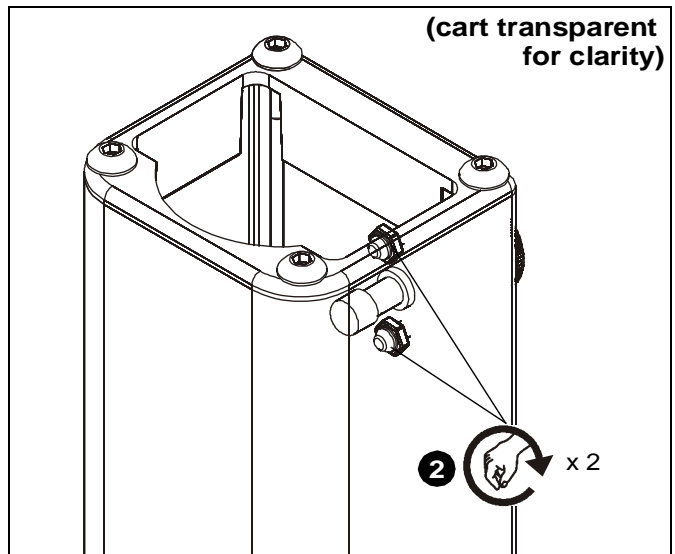

Figure 7
2. Install two removed flat head cap screws through upper and lower holes on new smit pin and partially thread removed hex nuts onto screws. (See Figure 7)